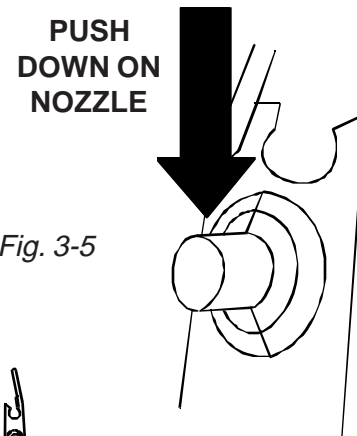

Fig. 3-5
2. Dislodge the upper portion of the vertical water tube from the plastic knob on the back of the tub by pressing down on the nozzle. (Fig. 3-5)